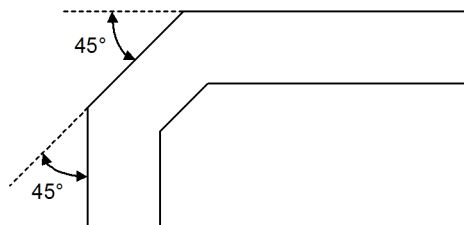

Figure 72. Trace Routing
- For high-speed signals, the number of corners and vias should be kept to a minimum. If a 90° bend is required, it is recommended to use two 45° bends instead. Refer to Figure 72.